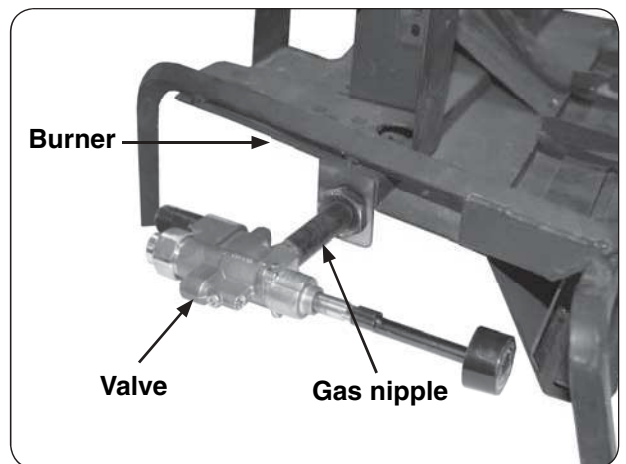

Fig. 9-3 Install valve
2. Install the valve by screwing it onto the nipple (Fig. 9-3). Be sure all connections are tight.